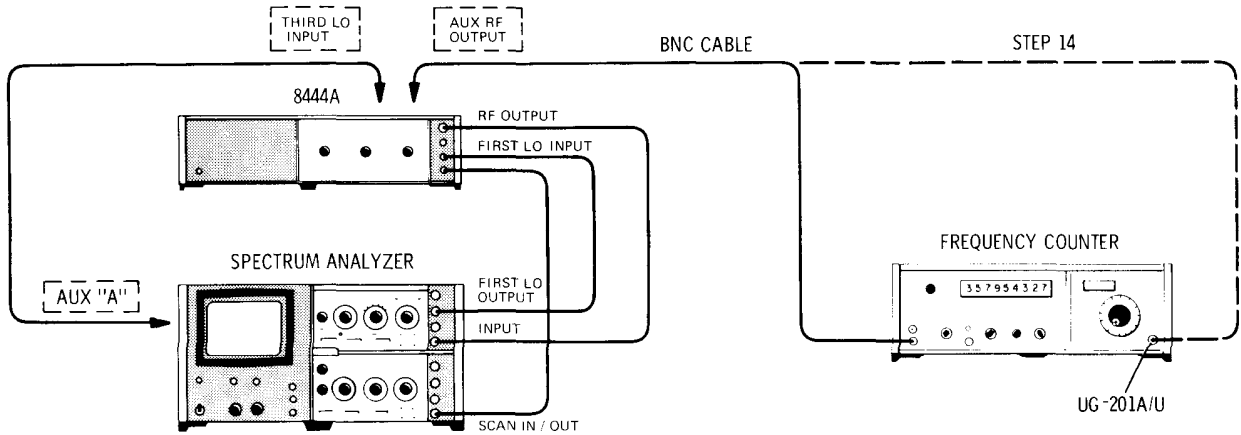

Figure 4-4. Amplitude Accuracy Test Setup
2. Connect test setup as indicated in Figure 4-4 and make the following control settings: